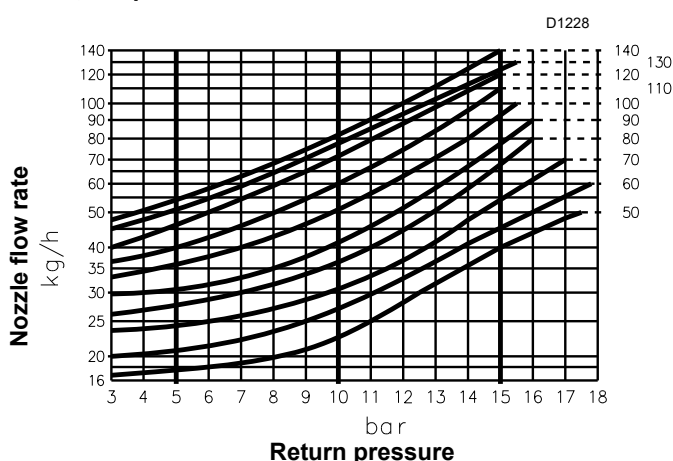
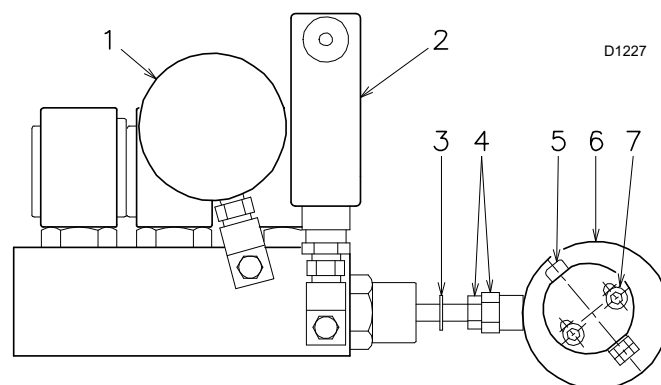

Fig. 28
Fig. 29
Diagram (Fig. 28) indicates this relationship for type A3 and A4 Bergonzo nozzles with pump delivery pressure of 20 bars.
The nozzle return pressure value is indicated by the pressure gauge 1)(Fig. 29).
The fine adjustment of the pressure in the return line may be carried out by changing the setting of the eccentric 6)(Fig. 29), of the nut and lock-nut 4)(Fig. 29).
- **Do not let the piston beat repeatedly: the stop ring 3)(Fig. 29) determines the maximum stroke.**
- **When the setting is carried out, verify manually that no slow-down occurs between (page 26) 0° and 130° and that the maximum and minimum pressures correspond to those chosen as per diagram (Fig. 28 on page 24).**
The nozzle flow rate is given in diagram (Fig. 28 on page 24) corresponding to the pressure on the nozzle return read on the pressure gauge 1)(Fig. 29 on page 25).